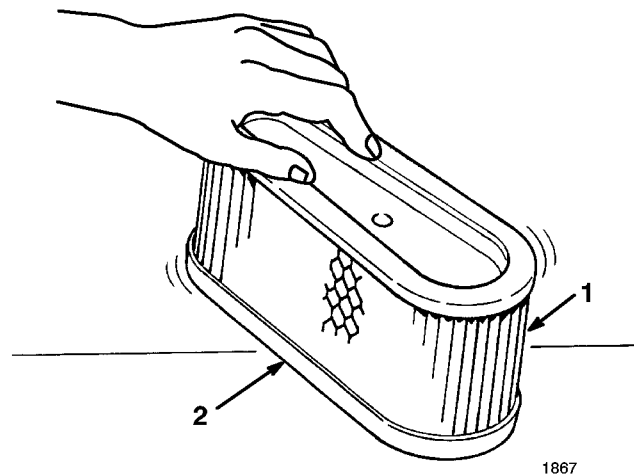

Figure 32
- A. Lightly tap the element on a flat surface to remove dust and dirt (Fig. 32).